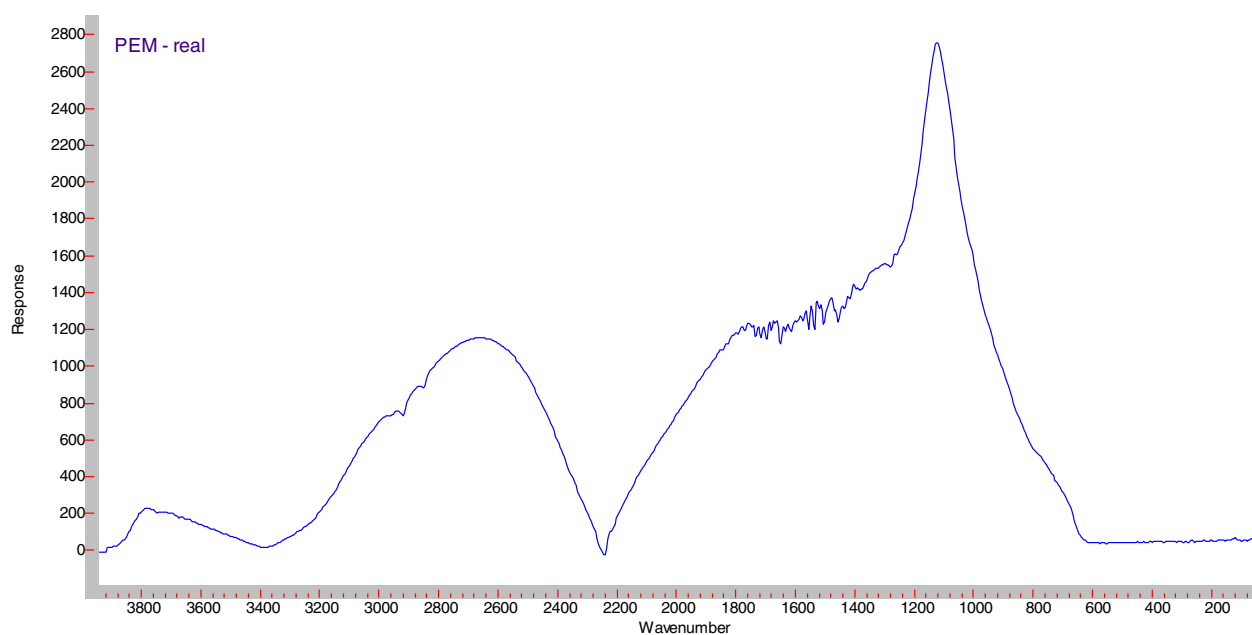

Figure 9. Spectrum 5
19. When the scan is complete select Spectrum 1 and Spectrum 5. Go to **Transforms>Fourier Transforms**. Set **Apodization Function = TRIANGULAR** and set **Zero Filling factor = 4** and then click **OK** to compute the interferograms. Spectrum 5 should look similar to Figure 9.